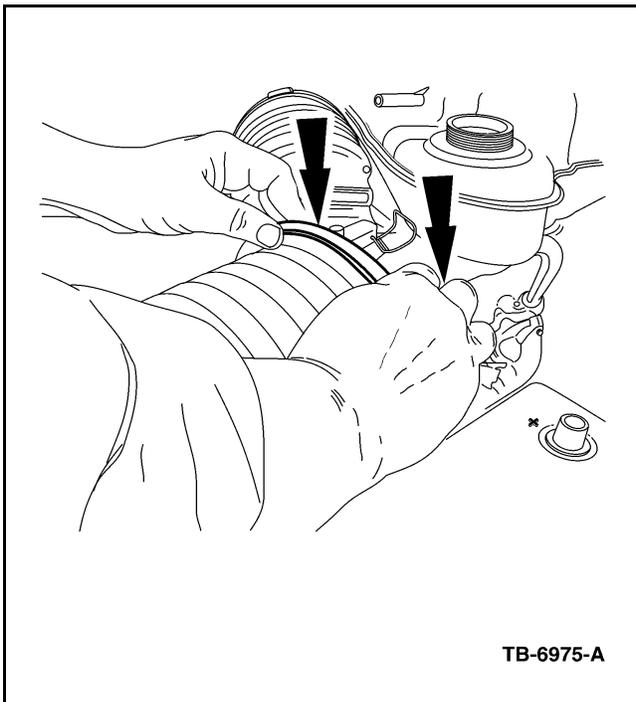

Figure 11 - Article 03-1-9
4. Bring top of cover toward the filter using both hands as shown in Figure 11. You will encounter some resistance but should press firmly. Attach the inboard clamp first while holding pressure on cover, and then attach outboard clamp.